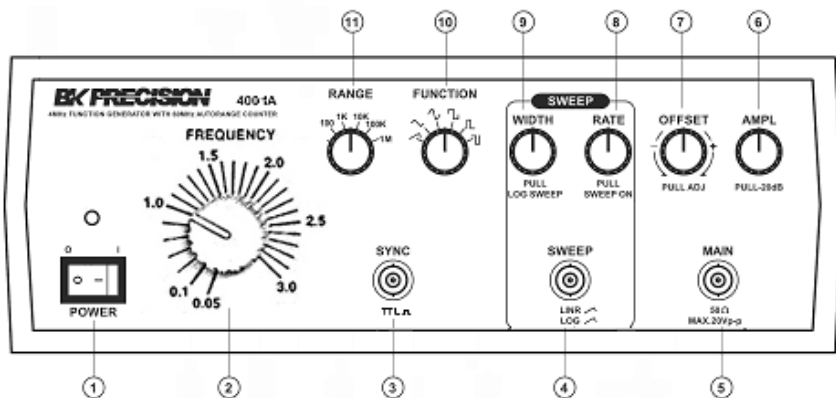

Fig. 1A Front Panel Controls (4001A)
4.1 FRONT PANEL (Refer Fig. 1A & 1B)